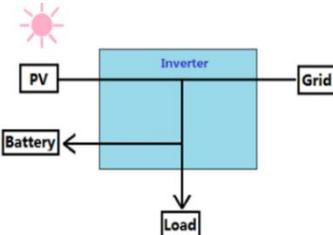

Figure1-7
1. PV and grid supply power to load and charge batteries together.( Figure1-7)